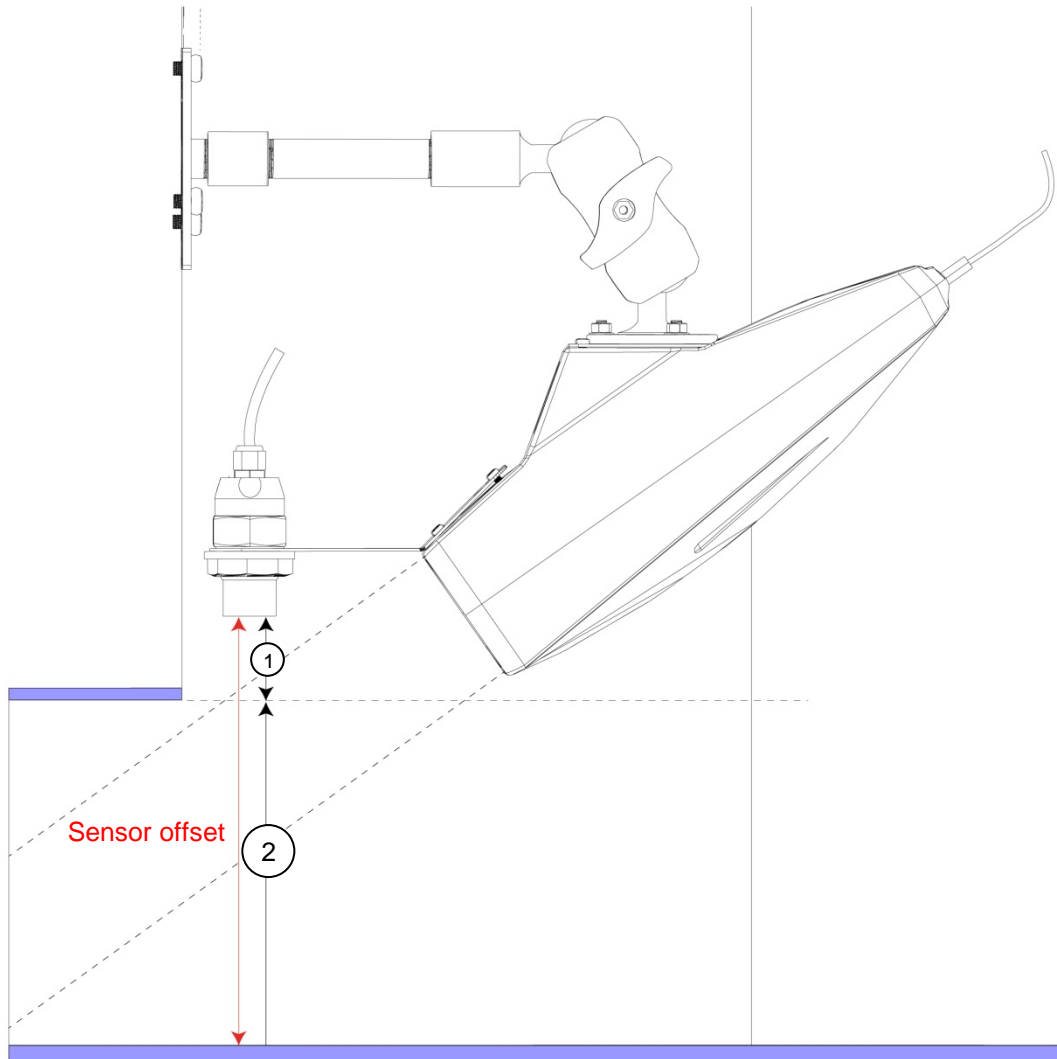

Figure 14: Sensor offset
1. Put the rod in the bottom of the pipe or channel and align it vertically with the level sensor (Figure 14).
Note: *If it is not practical to measure to the bottom of the pipe, measure the distance from the crown of the pipe to the top of the frame (Figure 14). Add this distance to the pipe diameter to get the sensor offset (sensor offset = pipe diameter + distance from crown of the pipe to top of frame).*